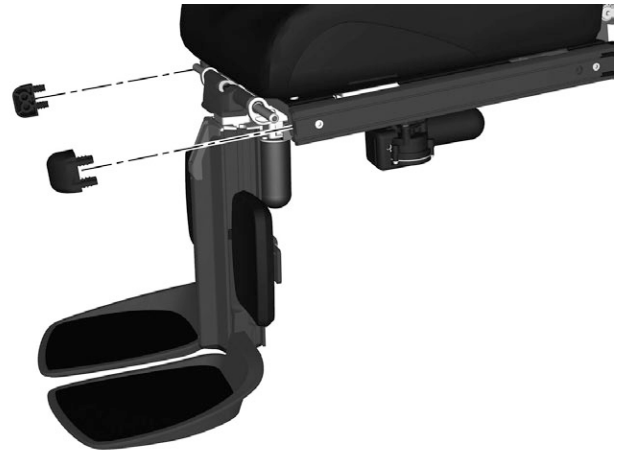

Figure 231. Remove the front ends of the UniTrack rails.
4. Remove the front ends of the UniTrack rails. See fig. 231.